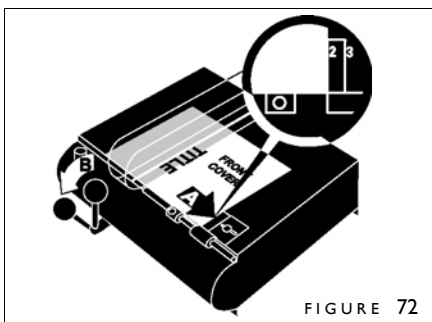

FIGURE 72
6. Slide your cover over again so its right edge (A) stops against step 2 (figure 72). Push the Lever to the left (B) to make a score. Remove your cover.